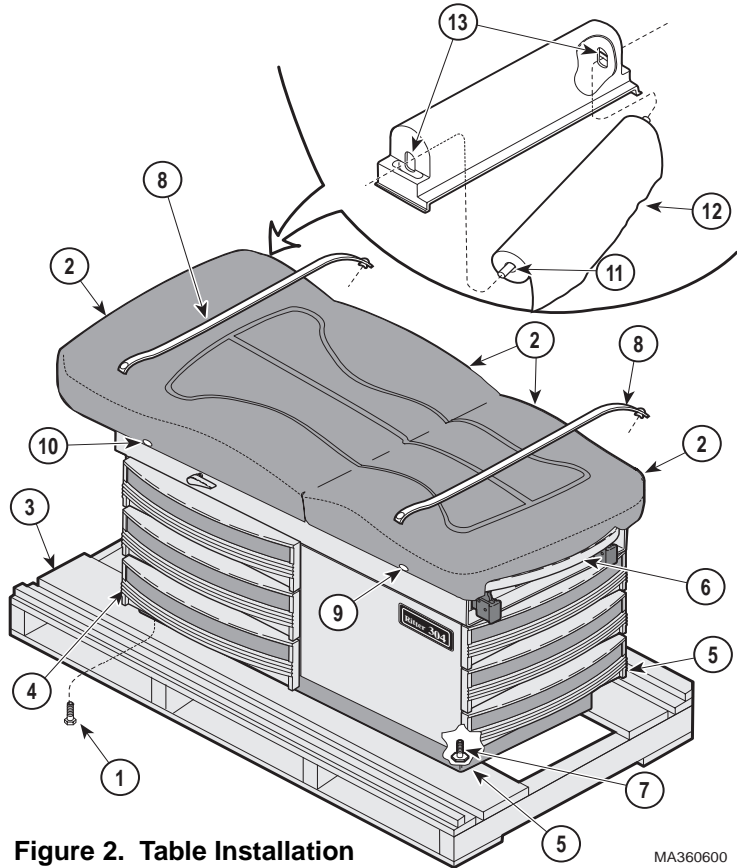

Figure 2. Table Installation
To avoid damaging the table's upholstered top or side panels, do not use a knife or other sharp object to open the table's packaging. Also, to avoid damaging the table, do not lift at points (2, Figure 2).
Unbolt the table from the wooden shipping skid by removing two bolts (1, Figure 2) from the underside of the table's base; diagonally from each other.
A leveling screw pad (7, Figure 2) is located under each corner of the table's base. Adjust the four leveling screw pads (7) up or down (by turning them) until a solid, level installation is achieved.
Two retaining straps are shipped in a side drawer. Install one retaining strap (8, Figure 2) on two snaps (9) and the other retaining strap (8) on two snaps (10).
A dowel rod (11, Figure 2) for supporting a paper roll (12) is shipped in a side drawer. To install, slide the dowel rod (11) through the paper roll (12) and then place one end of the dowel rod in one of the sockets (13), located on the rear side of the table's back section. Slide the end of the dowel rod back into the elongated hole of the socket (13) as far as possible and then push the dowel rod into the hole until the other end of the dowel rod can be inserted into the other socket (13). Center the dowel rod (11) and slide it forward in the sockets.